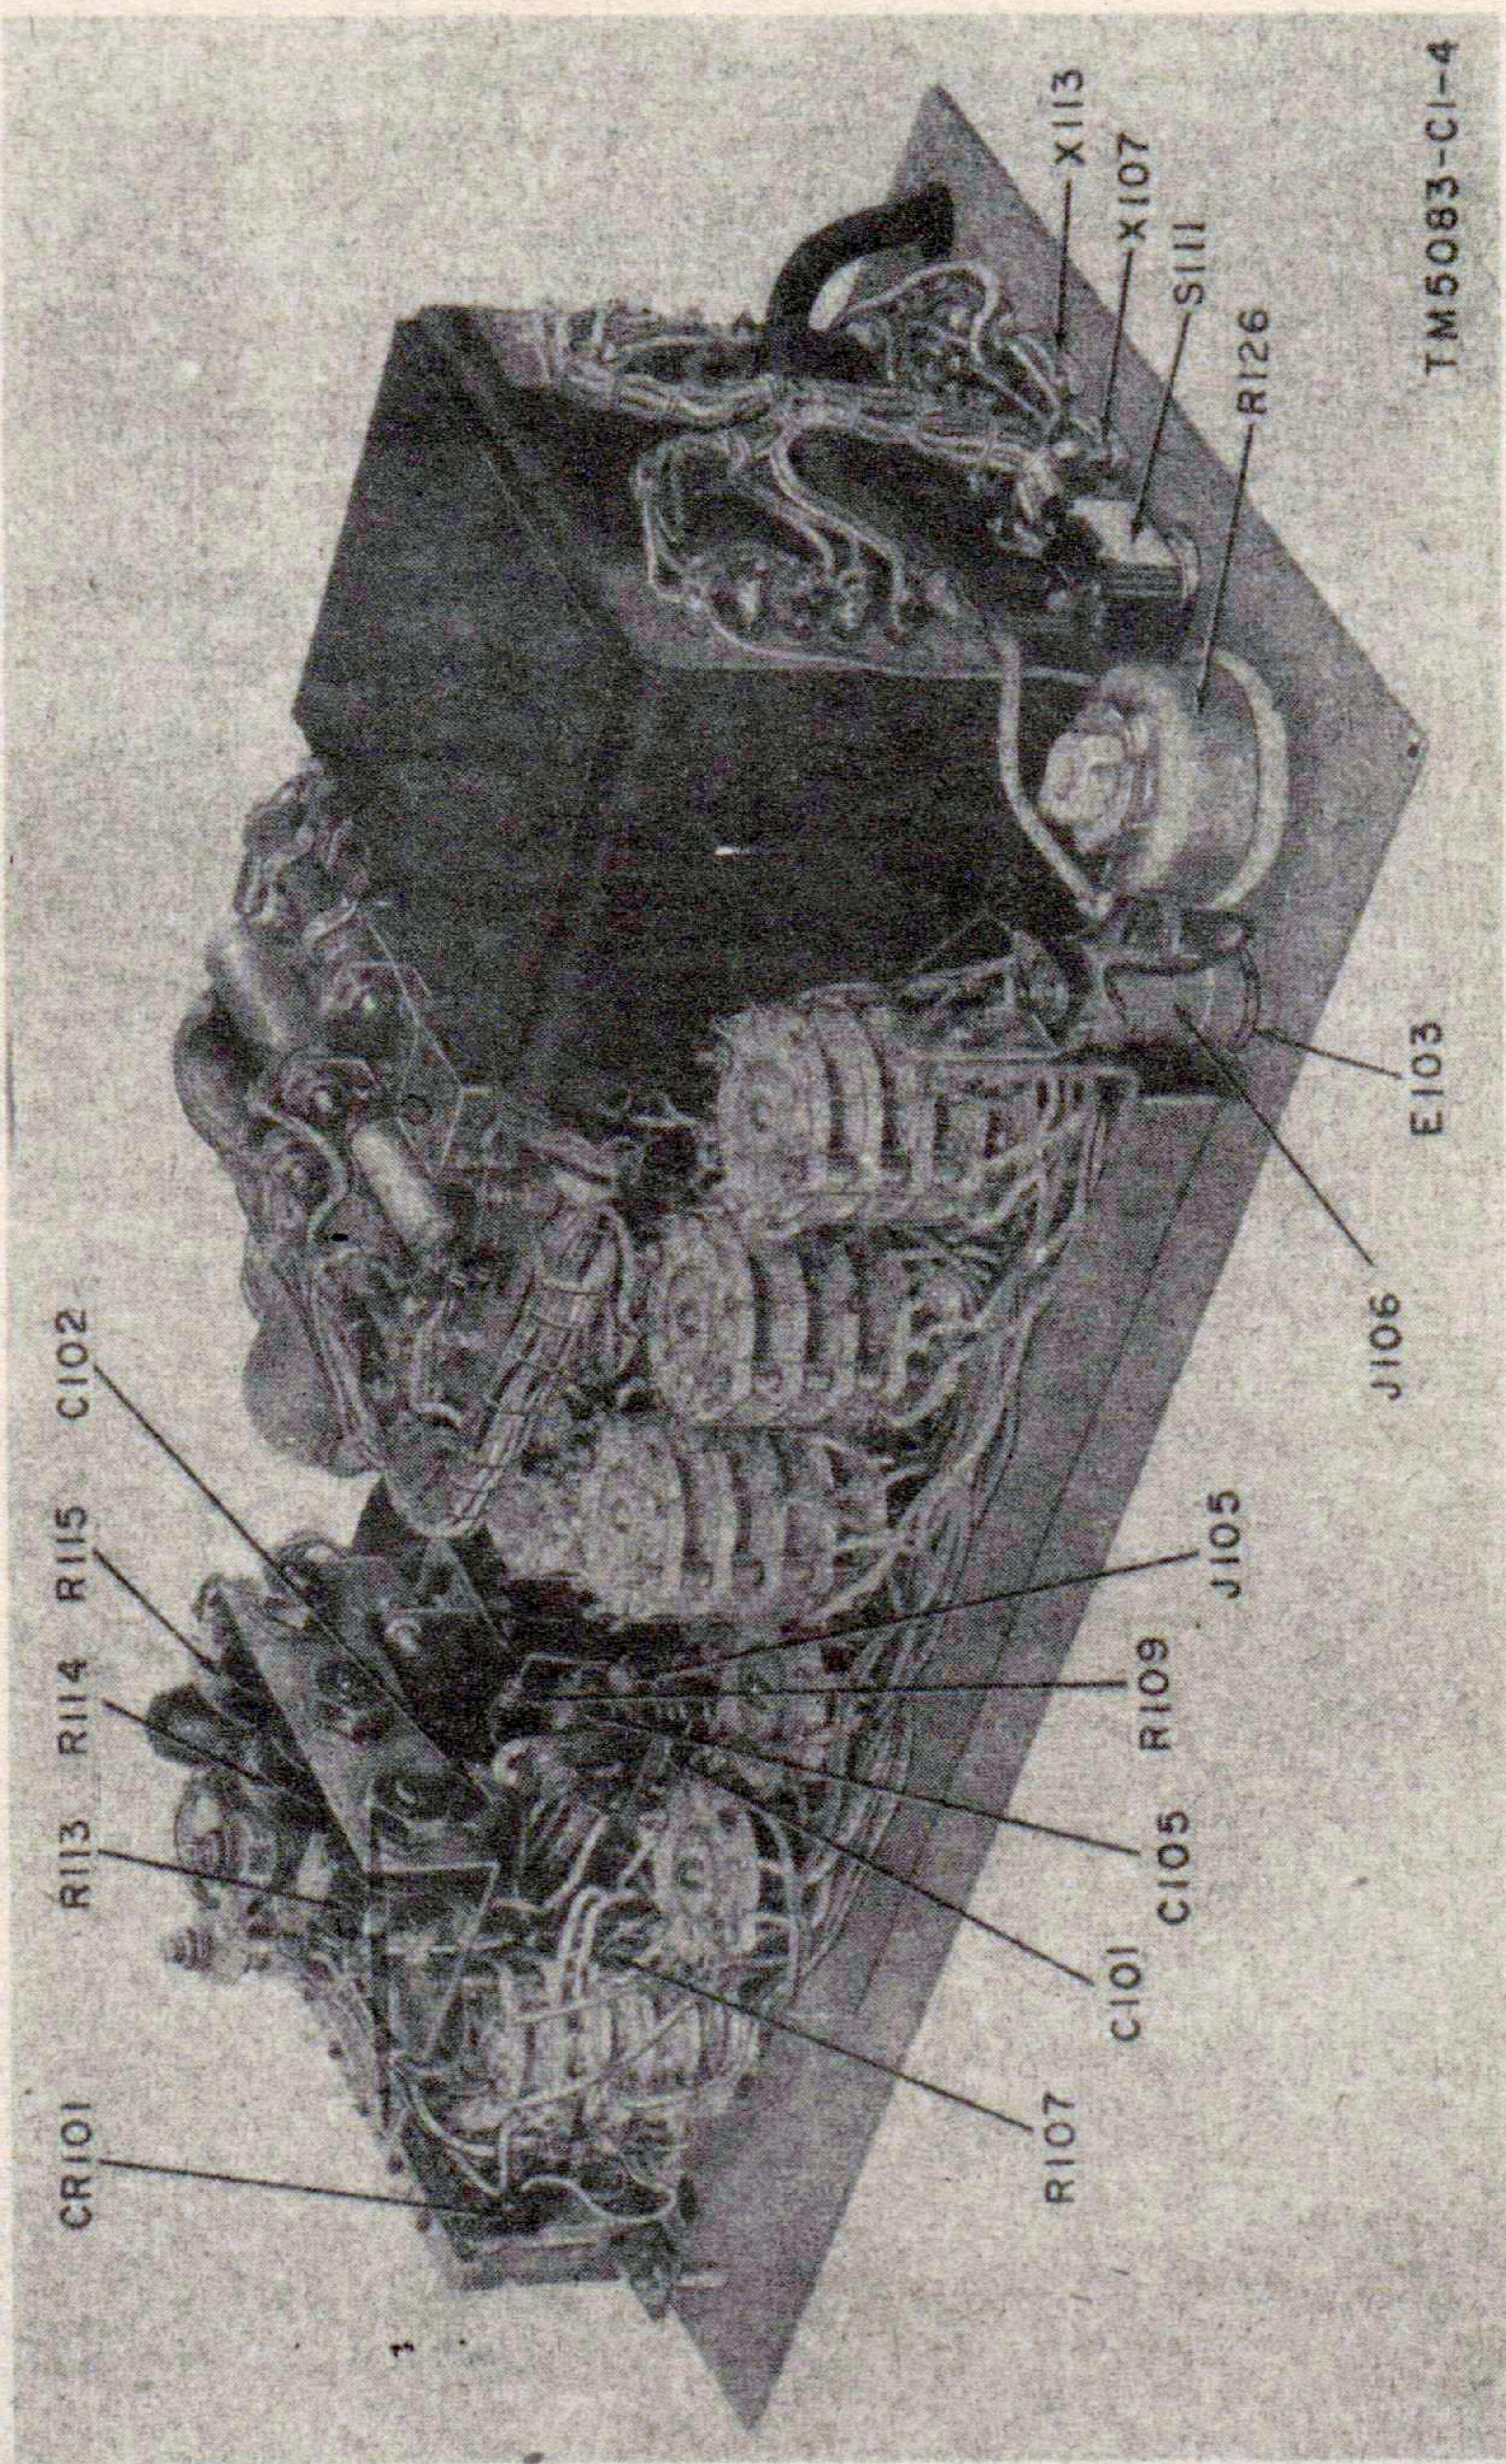

Figure 23.1 (Added). Internal view of Electron Tube Test Set TV-7A/U
- (3) If the TV-7/U meter indicates from 56 to 59, connect a 2- to 15-megohm (**1.5- to 20-megohm on the TV-7A/U**) fixed resistor across resistor R124. Use the resistor value that will return the TV-7/U meter pointer to LINE TEST position.
- (4) If the meter indicates approximately 63 or 64, connect a **10K** to **100K** fixed resistor across rectifier CR101. Use the resistor \* \* \* LINE TEST position.
d. (Added) If variable resistor R114 (figs. 23.1 or 23.2) is replaced, recalibrate range C as follows (TV-7A/U only):
- (1) Set the selector switches at HS53481 (panel settings for type 6L6 tube) and set the FILAMENT VOLTAGE switch to 6.3 volts.
- (2) Insert a 6L6 tube in the OCTAL socket.
- (3) Set the FUNCTION SWITCH to range B.
- (4) Adjust the LINE ADJUST control until the meter pointer is set to the LINE TEST mark.
- (5) With the BIAS control at any point above 50, press the 3MUT. COND. button and adjust the BIAS control until the meter indicates 120.
- (6) Set the FUNCTION SWITCH to range C.
- (7) Press and hold the 3-MUT. COND. button.
- (8) Adjust variable resistor R114 for a meter indication of  $60 \pm \frac{1}{2}$  units and tighten the shaft lock.
- (9) Remove the 6L6 tube.
- e. (Added) If either variable resistor R113 or R115 (figs. 23.1 or 23.2) is replaced, proceed with the calibration as follows (TV-7A/U only):
- (1) With selector switches set as outlined in paragraph 58, set the FUNCTION SWITCH to range B and the BIAS control to zero.
- (2) Adjust the LINE ADJUST control until the meter pointer is at LINE TEST.
- (3) Apply a 60-cps ac signal of 50 volts rms, in series with a 10K load resistor, between pins 3 and 6 of the OCTAL socket.
- (4) Press and hold the 3-MUT. COND. button.
- (5) If the meter pointer deflects to the left, reverse the line plug.
- (6) If the meter indicates more than 40.5 units, adjust variable resistor R113 to obtain a deflection of  $40 \pm \frac{1}{2}$  units and lock the shaft.
- (7) If the meter indication is less than 39.5 units, adjust variable resistor R115 for a deflection of  $40 \pm \frac{1}{2}$  units and lock the shaft.
- (8) Check for the following readings on the other ranges with the 3-MUT. COND. button pressed.